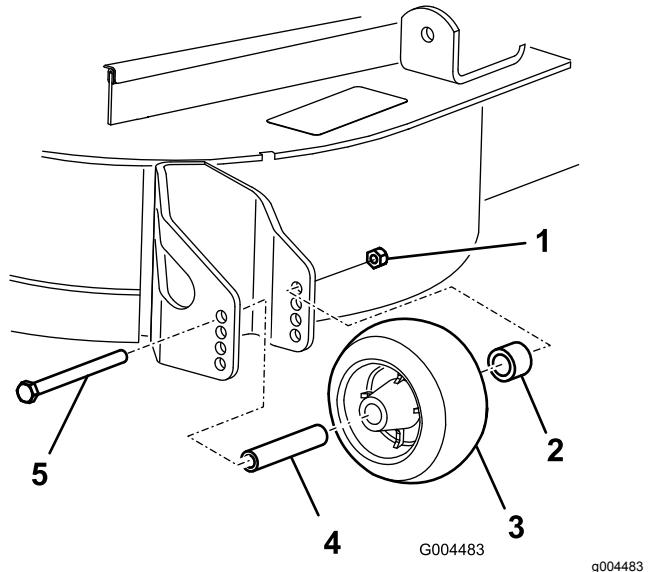

Figure 45
3. After adjusting the height-of-cut, adjust the rollers by removing the flange nut, bushing, spacer, and bolt (Figure 45).
5. Install the flange nut, bushing, spacer, and bolt (Figure 45).